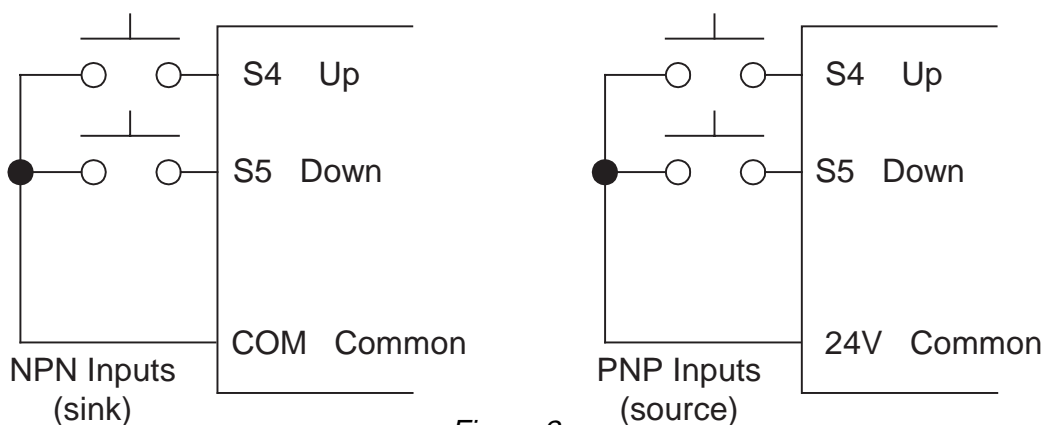

Figure 2
- 4) Parameter 1-06 = 0003: The Up/Down Digital Inputs (Digital Input Function Codes 14 and 15) set the Frequency Command. Set Parameters 5-03 to 0014 and 5-04 to 0015 and connect Up/Down pushbuttons to the drive as shown below in Fig 2.